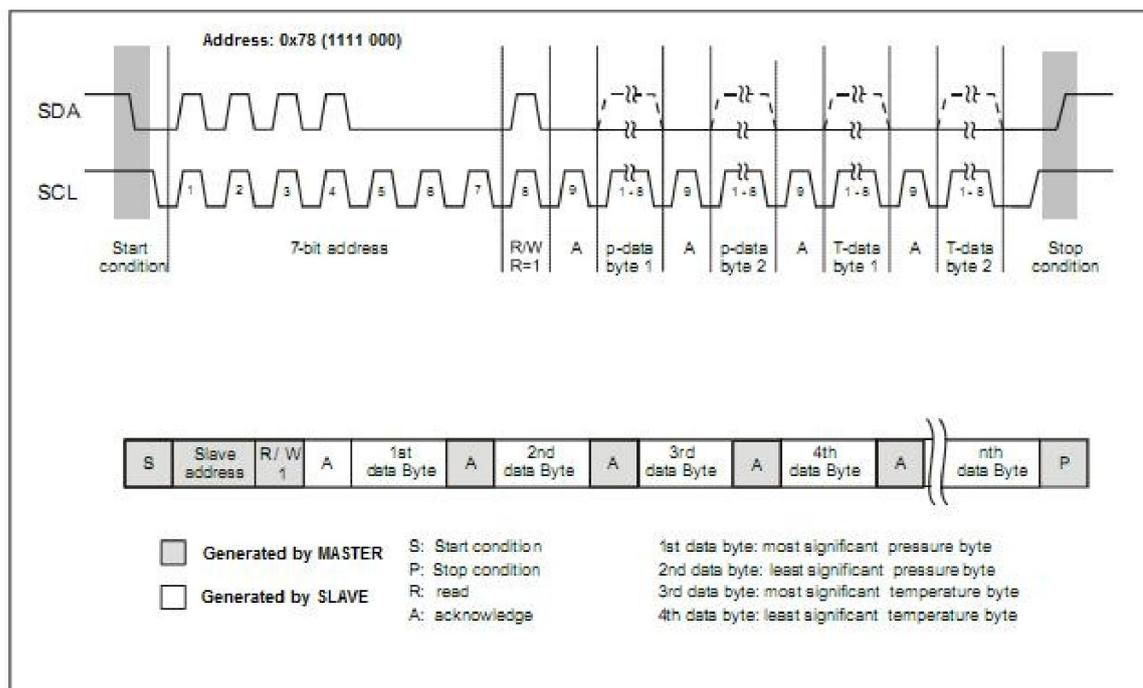

Figure 4: Digital pressure & temperature data transfer from PHPS sensors
Digital data transfer is presented in figure 4.
Pressure and temperature output signals from PHPS pressure sensors come as 15 bit values to the output register. Master, which would like to read this data, starts communication with the start condition. After that master sends 7 bit slave address (factory default is 0x78) and data direction bit R/W (for read data R/W="1"). Slave confirms this address with acknowledge (A) bit first and afterwards sends desired data with bytes (8 bits): first byte is most significant byte for pressure value, second byte is least significant byte for pressure value, third byte is most significant byte for temperature value, fourth byte is least significant byte for temperature value. Master must confirm each received byte with acknowledge bit (see figure 4). Master can stop the data transfer by sending the stop condition or it can generate additional acknowledge bit after 4 receiving bytes of data (pressure and temperature) for continues data receiving from slave (PHPS sensor).